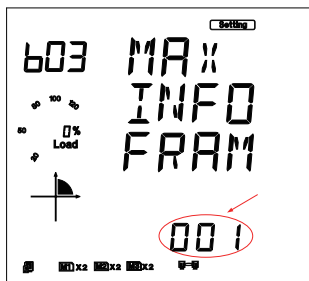

Fig 5-91
e). Set MAX INFO FRAM in the third setting page, such as 1. The BACnet MS/TP MAX INFO FRAM default value is 1, and the user defined range of MAX INFO FRAM is 1~255. Users may set the parameters pointed out in Figure 5-91. After setting the BACnet MS/TP MAX INFO FRAM, press the "V/A" key to accept. Press the "P" key to go to the fourth setting page for the module reset.